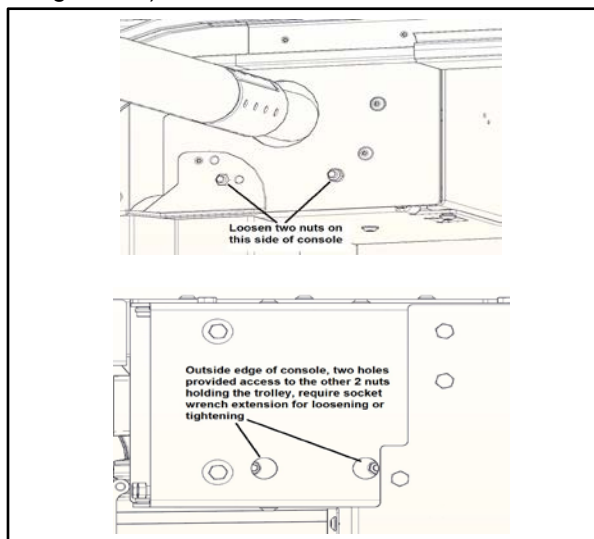
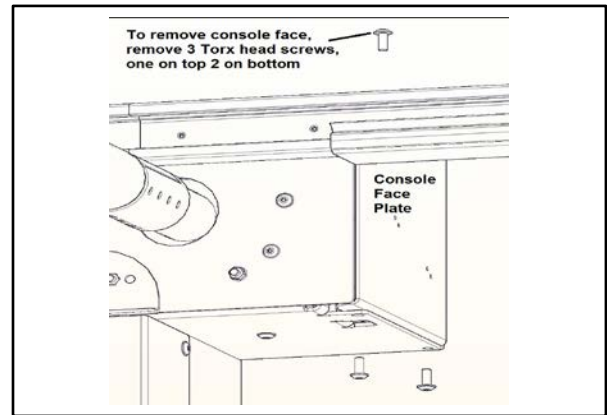

Figure 47
Figure 48
4. The S – Size trolley has four nuts that must be loosened before trolley adjustment can be made. Two are located on the side of the console and two can be accessed via two holes on the outside of the console. A socket extension will be required to perform this procedure. The face of the console can also be removed providing greater access to the nuts. (See Figure 47 and Figure 48.)